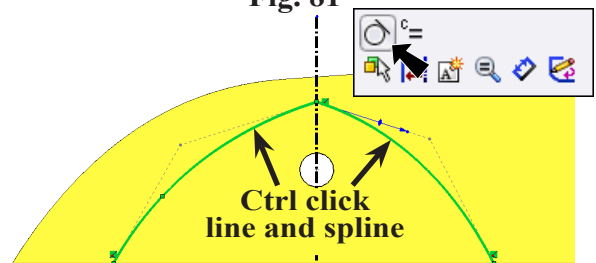

Fig. 82
Step 14. **Ctrl click** both splines to select both splines, **Fig. 82**.
Step 15. Click **Make Tangent**  on the Content menu, **Fig. 82**.